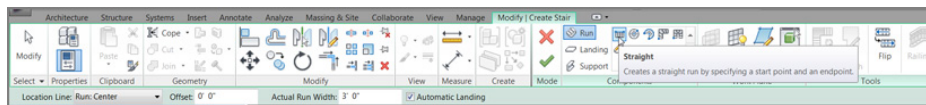

FIGURE 10.2: The Modify | Create Stair tab, Sketch Mode
5. You're put into Sketch Mode for the stairs you're about to design, as shown in Figure 10.2.
6. On the Components panel of the Modify | Create Stair tab, make sure the Run button and the Straight button are checked (see Figure 10.2).